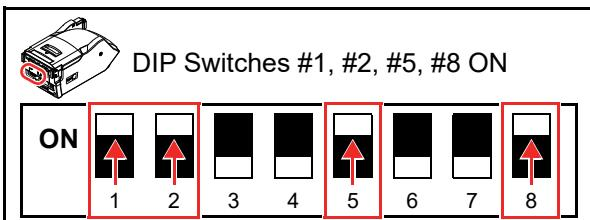

Figure 6-80 DIP Switch Test 1
2. Set the DIP Switches of the UBA Pro Unit as below (Figure 6-80).